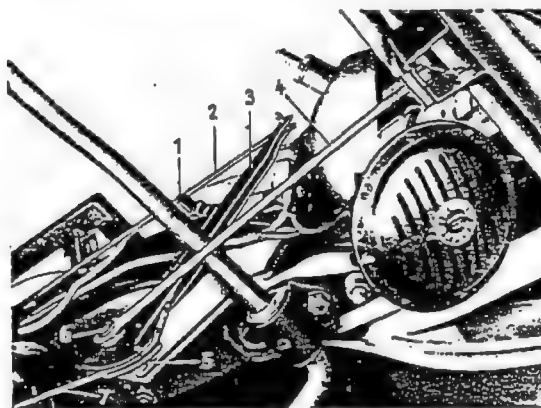

Fig. 33-1/2
5. Screw off the wing nut (1) for adjusting the hand-brake at the hand-brake lever (3). Remove the cotter pin (5) which secures the center brake cable (7) at the lower part of the lever and pull the brake cable through the guide on the front axle support (Fig. 33-1/2).